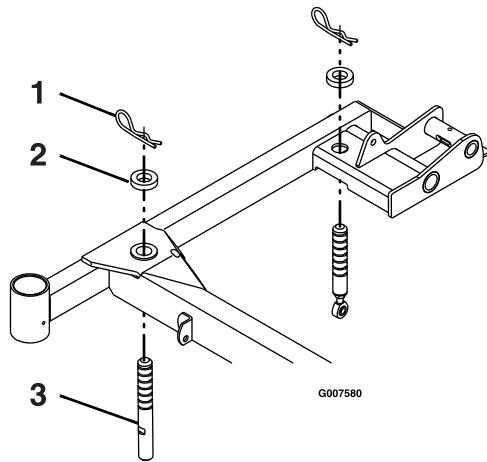

Figure 15
4. Verify all hairpins are in the 3 inch deck height holes with the spacers under the hair pins (Figure 15).